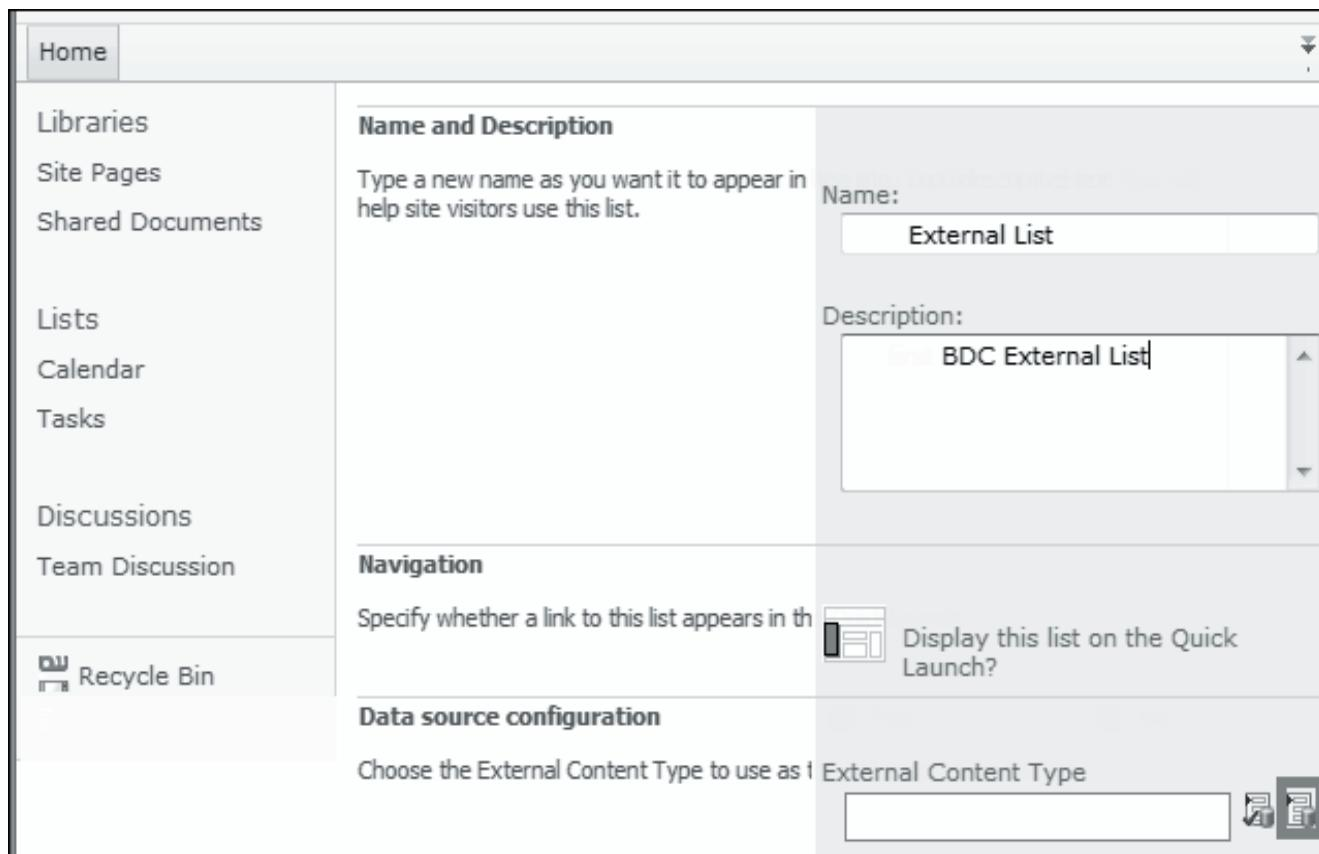

Figure 15.2: New Tasks Item Window in SharePoint Site
6. To add a task to the tasks list, click **Add new item**. This displays the Tasks - New Item window as shown in figure 15.2.